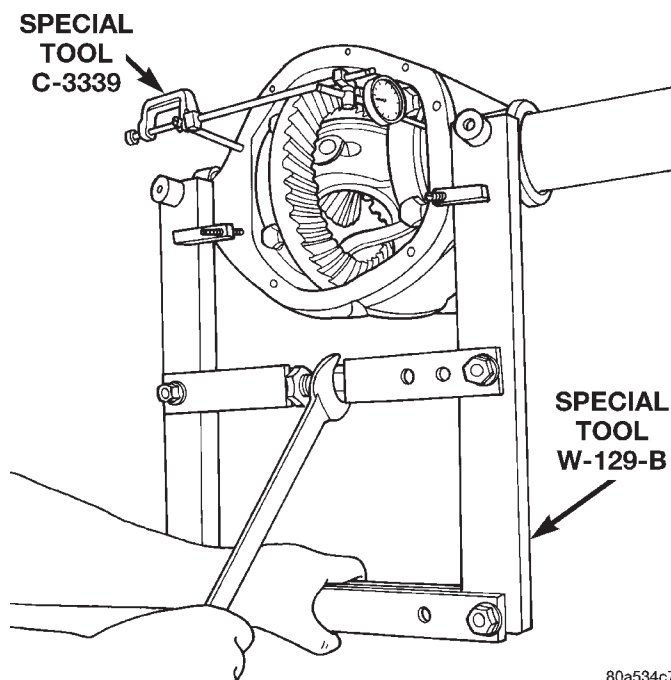
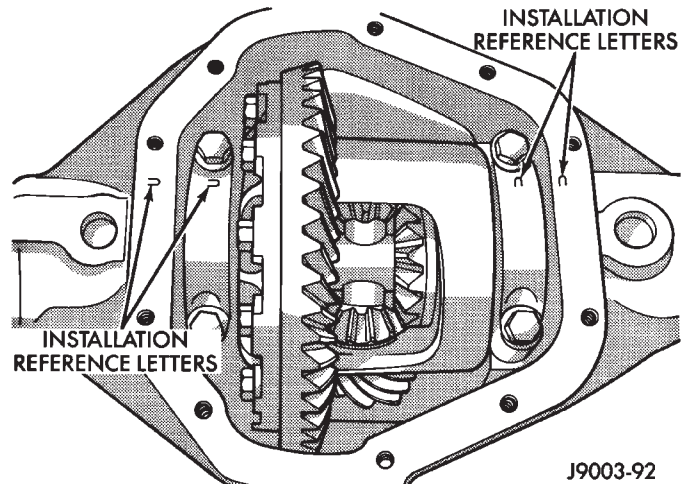

Fig. 26 Spread Axle Housing
Fig. 29 Differential Bearing Cap Reference Letters
(9) Spread the housing enough to remove the differential case from the housing. Measure the distance with the dial indicator (Fig. 26).
(10) Remove the dial indicator.
(11) While holding the differential case in position, remove the differential bearing cap bolts and caps.
(3) Spread the housing enough to install the case in the housing. Measure the distance with the dial indicator (Fig. 26).
(4) Remove the dial indicator.
(5) Install differential case in the housing. Ensure that the differential bearing cups remain in position on the differential bearings and that the preload shims remain between the face of the bearing cup and the housing. Tap the differential case to ensure the bearings cups and shims are fully seated in the housing.
(6) Install the bearing caps at their original locations (Fig. 29).
(7) Loosely install differential bearing cap bolts.
(8) Remove axle housing spreader.
(9) Tighten the bearing cap bolts to 77 N·m (57 ft. lbs.) torque.
(10) Install the axle shafts.